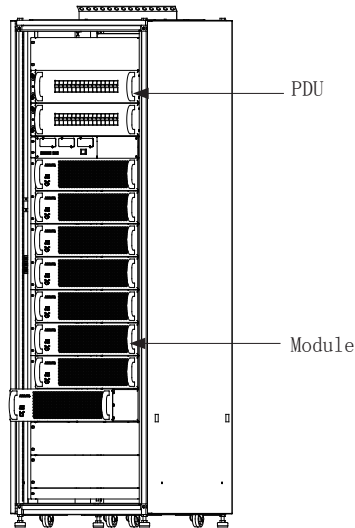

Fig. 4-5
7. Repeat the above 4-6 steps to install all of the UPS modules into the cabinet in sequence. (Fig.4-5);